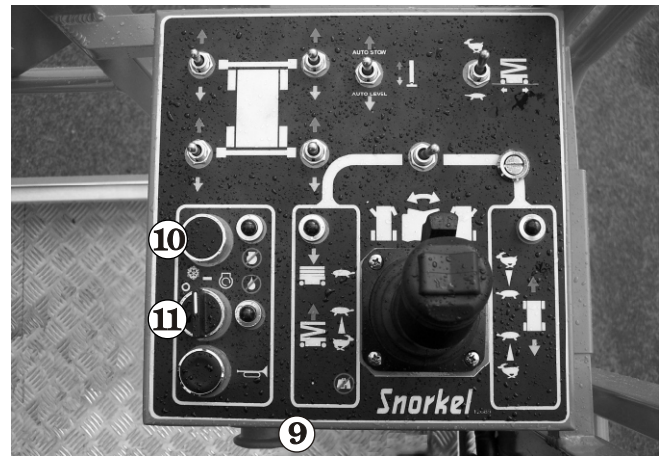

Figure 8.14
7. Turn the **Emergency Stop** switch ⑨ clockwise and it will pop out (on) (see Figure 8.14).
8. If the engine is cold, press and hold the **Choke** switch ⑩ during the next step.
9. Turn and hold the **Start** switch ⑪ clockwise (to the start position) until the engine starts or for 20 seconds, whichever comes first. When the engine starts, release both the start switch ⑪ and the choke switch ⑩ (see Figure 8.14).